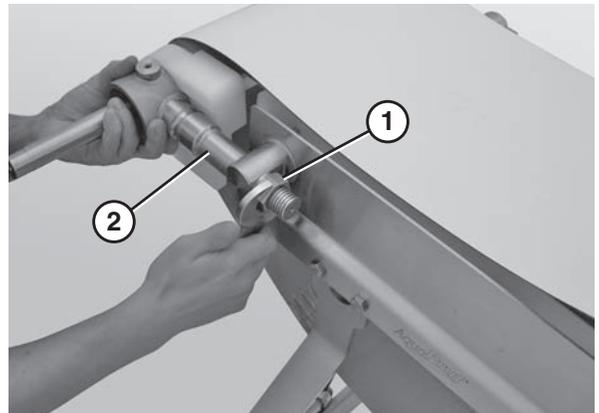

Figure 61
- Remove the back nut (**Figure 61, item 1**) on both drive tail shafts (**Figure 61, item 2**).